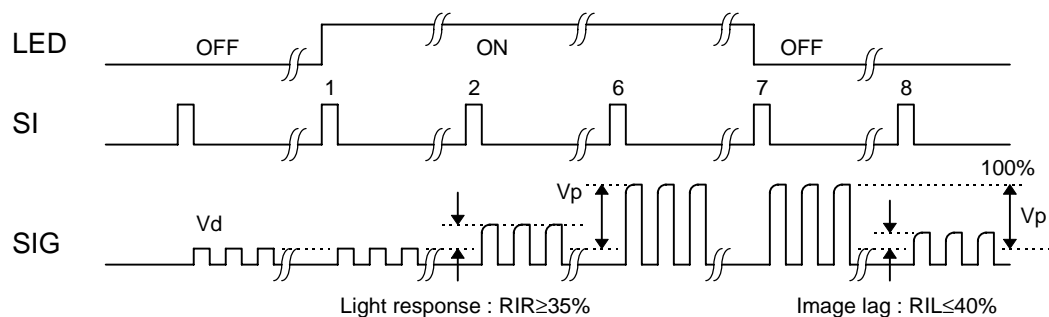

Figure-5
- RIL : Image lag (cf. Figure-5)
- RIR : Light response (cf. Figure-5)